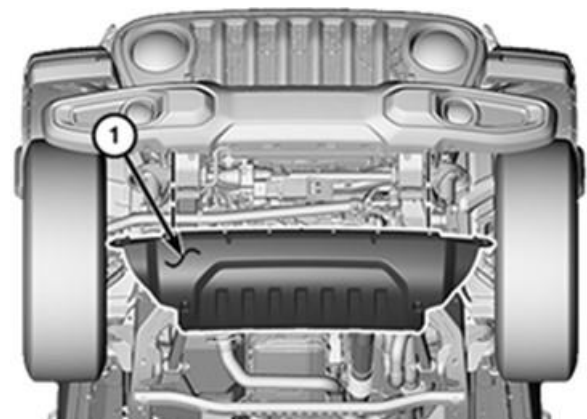

Figure 11 – Air Dam
21. Remove the air dam (1) (Figure 11).